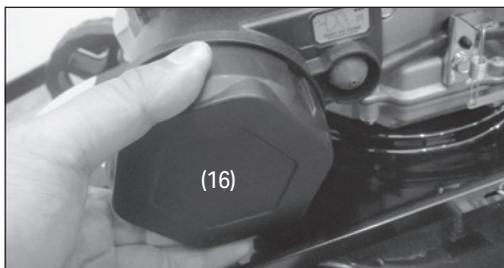

Fig.14
8.4 Air Filter Care (Fig.14 – Fig.15)